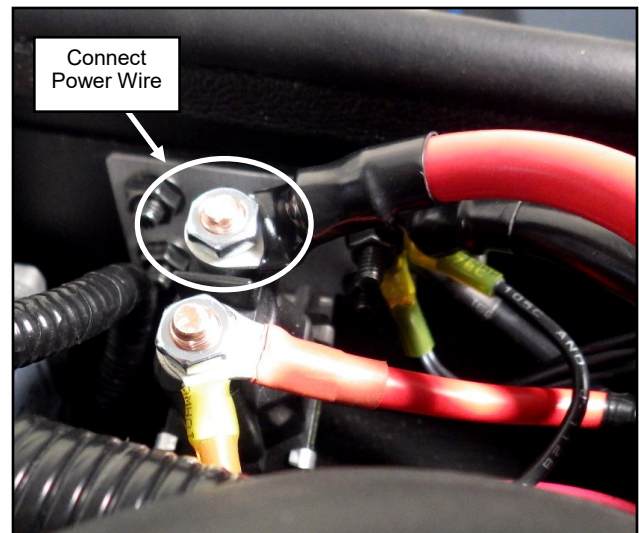

Fig. 2.7 (Connect power wire to A/C Unit)
- 2.7** Install the red power wire found on the A/C Power Supply Wire Harness onto the empty terminal found on the solenoid per fig 2.7.